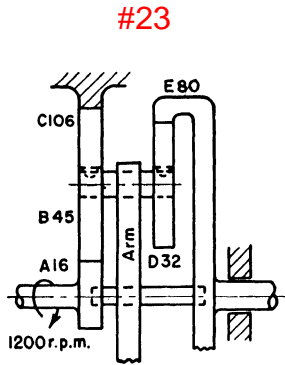

Fig. P 11.15
11.15. Determine the speed and direction of rotation of gear *E* in Fig. P 11.15.